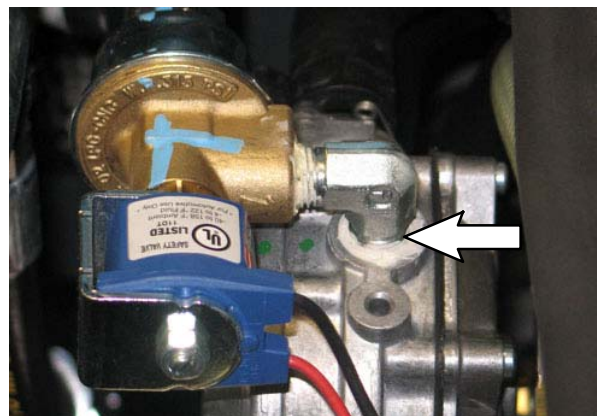

FIG. 11
22. Start and test the machine. Apply a soap / water mixture around the area where the lock off fitting is installed on the vaporizer. Observe the connection for leaks. (Fig. 11)